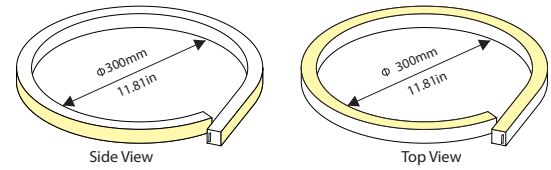
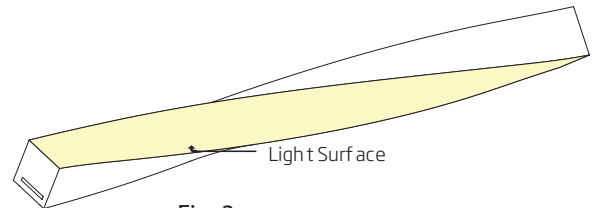

Fig. 1
Fig. 3
- Do not bend past the minimum diameter (Fig. 1) or twist this fixture (Fig. 3, 5). Doing so will result in damaging the internal circuit board.